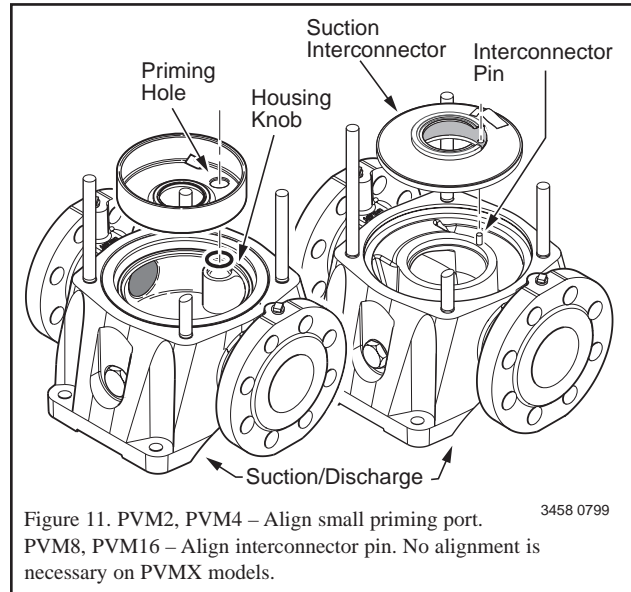

Figure 11. PVM2, PVM4 – Align small priming port. PVM8, PVM16 – Align interconnector pin. No alignment is necessary on PVMX models.
6. Remove and replace round spring ring (PVM2 and PVM4) or stack spring (PVM8 and PVM16) (13).
7. Pull the old stack (16A through 16L) out of the stainless steel sleeve (18) by pulling straight up on the pump shaft (16A).
8. Remove the stainless steel sleeve (18).
9. Remove and discard the bottom sleeve gasket (17).
**NOTICE:** Be sure to align either the small priming hole or the suction interconnector pin hole (located on the bottom stage of the stack) properly in the base of the Suction/Discharge (21). See Figure 11 (not necessary on PVMX models).
15. Use a rubber mallet to tap the stainless steel sleeve (18) into place.
17. Install a new upper sleeve gasket (17).
18. Install a new round spring ring or stack spring (13).
19. Reinstall the motor bracket (7) on the pump body. Align the priming plug (6) to its original position.
20. Oil the threads on the staybolts (19).
22. Reinstall the motor (1) on the motor bracket (7) and turn the motor to the desired terminal box position.